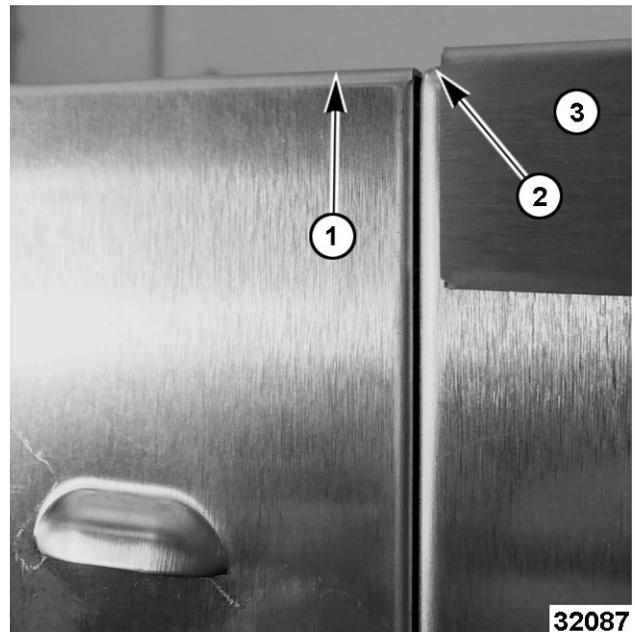

Fig. 9
- Adjust the control panel (1, Fig. 9) until it is flush with the frame (2, Fig. 9) of the oven along the top (Fig. 8) and side. Not with the top trim (3, Fig. 9).